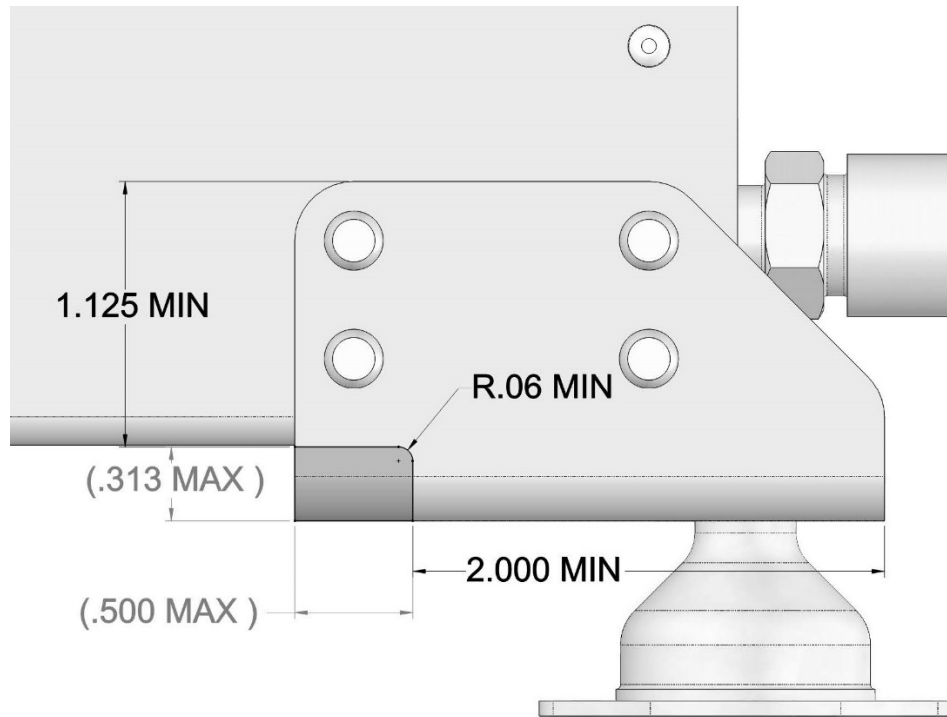

Figure 2: Allowed fastener trimming
5. If necessary, the aft condenser assembly mount may be trimmed as shown in Figure 2 as required, up to 0.5 in. depth, to obtain clearance between condenser assembly and fairing dzus fastener.